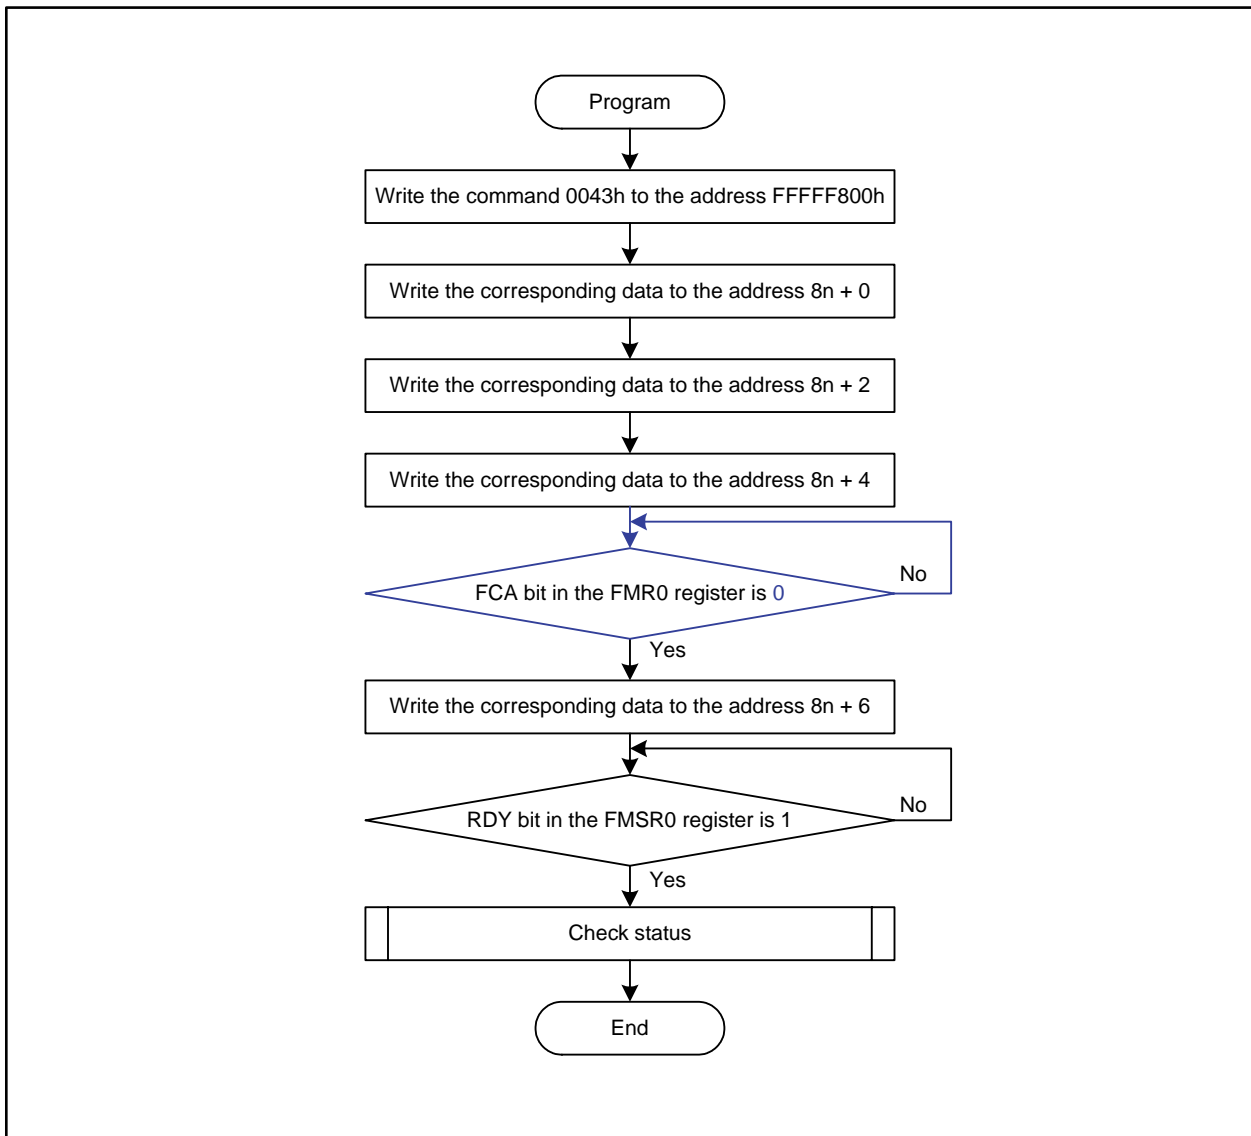

Figure 25.14 Program Command Flow
•Pages 393 to 397 of 464, flowcharts in Figures 25.14 to 25.18 are corrected as follows: